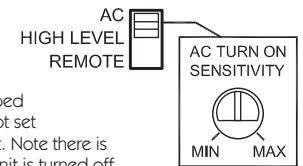

Fig. 2
- c. AC Mode using Smart Engage™ - This setting is intended for vehicles that do not have DC voltage on the speaker leads. This setting requires adjusting the sensitivity of the re-Q⁵ to turn on when music signal is present on the speaker input wires. Set the Input Select Switch to AC and the re-Q⁵ should turn on with signal from the head unit. The re-Q⁵ is shipped with the sensitivity set to the maximum level. To ensure the sensitivity is not set too high for the application, confirm the re-Q⁵ turns off with the head unit. Note there is approximately a 15 second delay for the re-Q⁵ to turn off after the head unit is turned off. The delay is to prevent the unit from shutting off when there are pauses in the music or when changing tracks or CDs. If the re-Q⁵ does not turn off after 15 seconds, adjust the Turn On Sensitivity knob counter-clockwise in small increments until the re-Q⁵ turns off after the 15 second delay. (Fig.2)